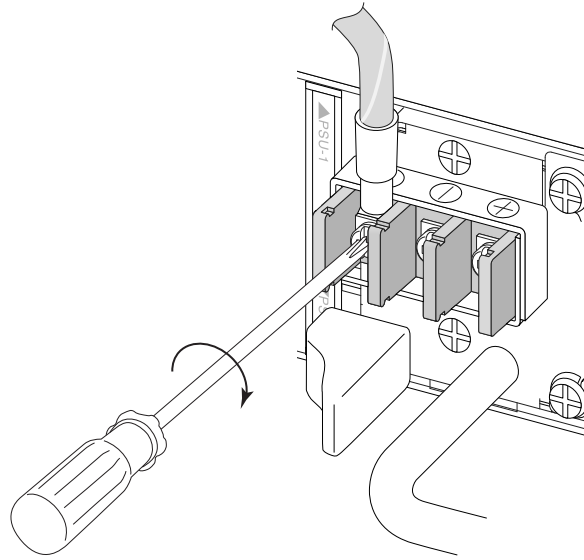

Figure 418: Securing the Ground Wire
- a. Loosen the screw enough to allow the spade terminal to slide underneath the captive square washer (see Figure 418).